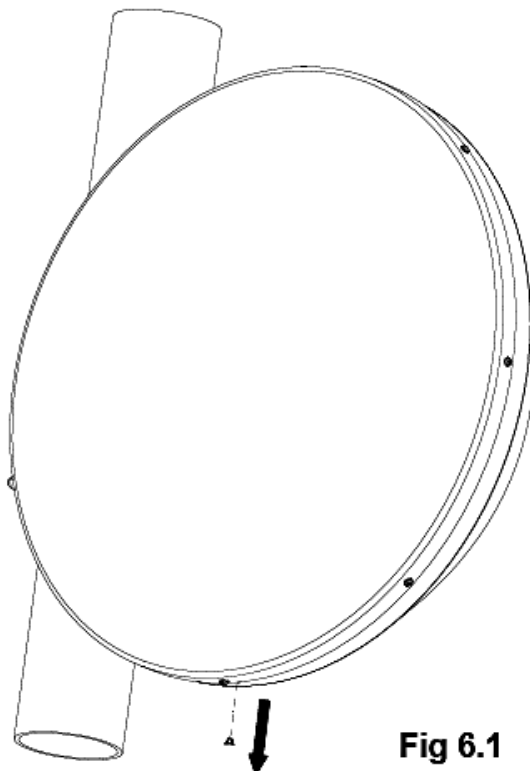

Fig 6.1
6.2 Keep the antenna’s bottom draining-hole open. Keep the top one sealed (shown in Fig.6.1 and Fig.6.1.1).